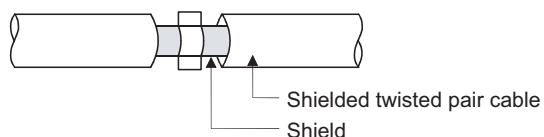

Figure 9.6 Shielded twisted pair cable grounding
- Use shielded twisted pair cables for the twisted pair cables connected to the 10BASE-T/100BASE-TX connectors. Ground the exposed shield section of the shielded twisted pair cable, where the cable jacket was partly removed as shown in Figure 9.6, on the widest contact surface.